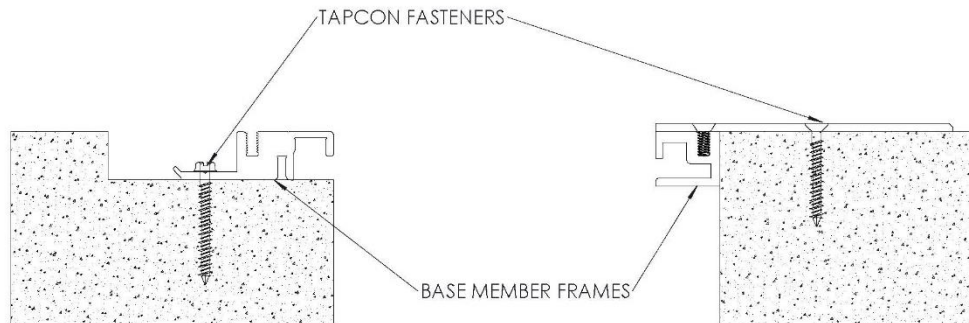

FIGURE 2
2. Position appropriate base member frame in blockout and position other base member frame on the non-blockout side per shop drawings. Using the frames as a template, mark and drill 5/32” holes for Tapcon fasteners. Install base member frames to the blockout opening and non-blockout side with fasteners, making sure not to over tighten. *Note: In the 2” size the base frame on the non-blockout side is shaped differently than what is shown in Figure 2, see shop drawing for clarification. See Figure 2*